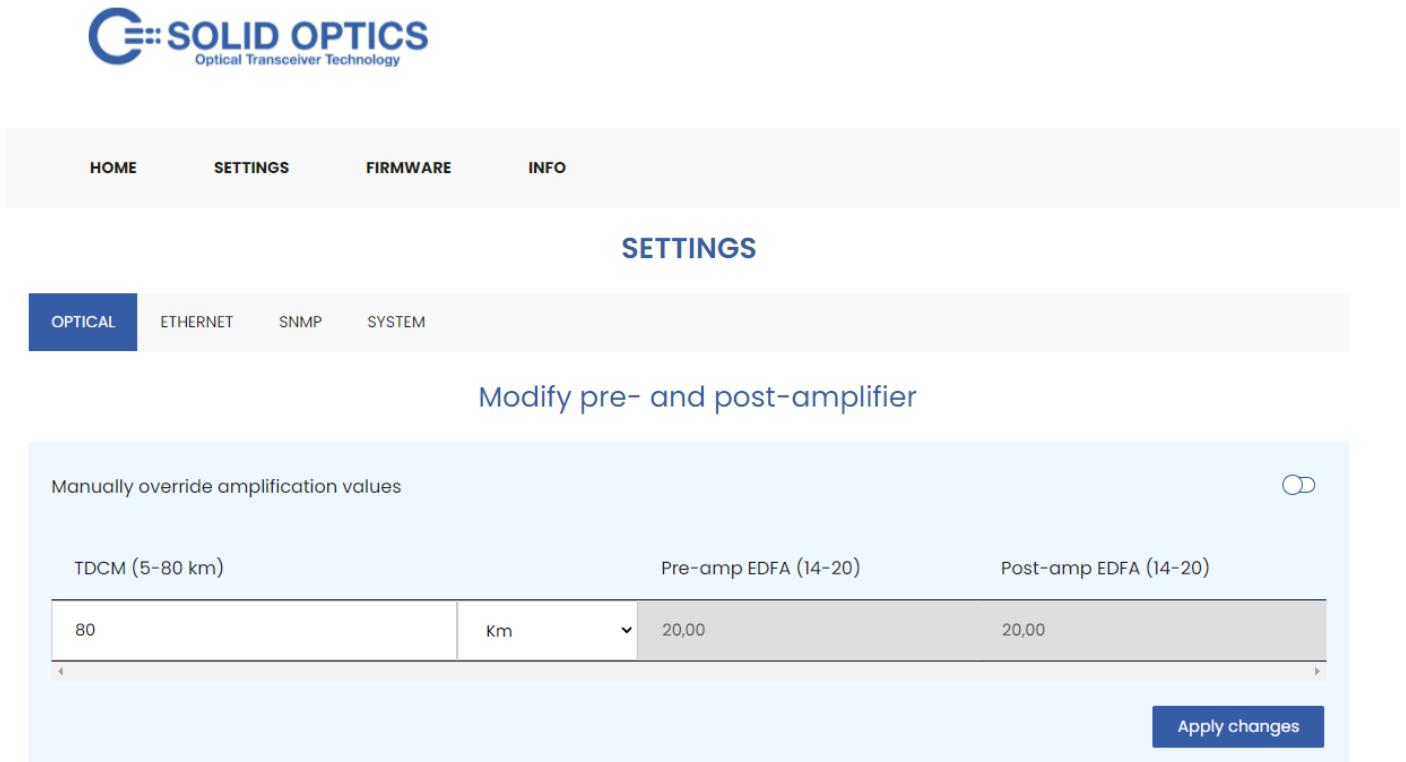

Figure 1
14) If values are too low, you can fine-tune the EDFAMUX configuration (based on Figure 1): Click **“Manually override amplification values” (2)**, then modify the Pre and Post EDFA **(3)**, click on **“Apply changes” (4)**, repeat the operation in the second site EDFAMUX and again verify the values before connecting the DWDM optics.